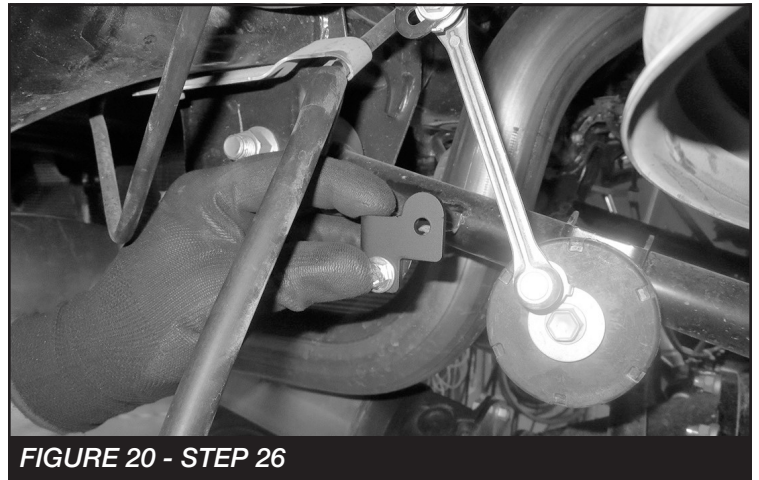

FIGURE 20 - STEP 26
26. Install FT70316 (Driver Air Spring Sensor Bracket) to the upper link using the supplied 1/4" hardware. **SEE FIGURE 20 for orientation.**